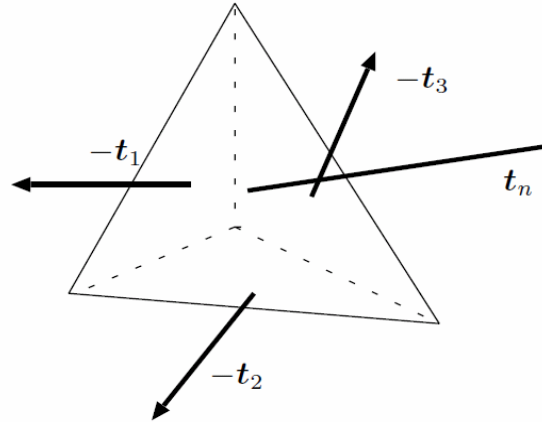

図 6: 物体内に作用する力
- Suppose there is a force $d\mathbf{f}_n$ acting on the infinitesimal area element ds on arbitrary virtual surface inside the substance. (Fig.6).